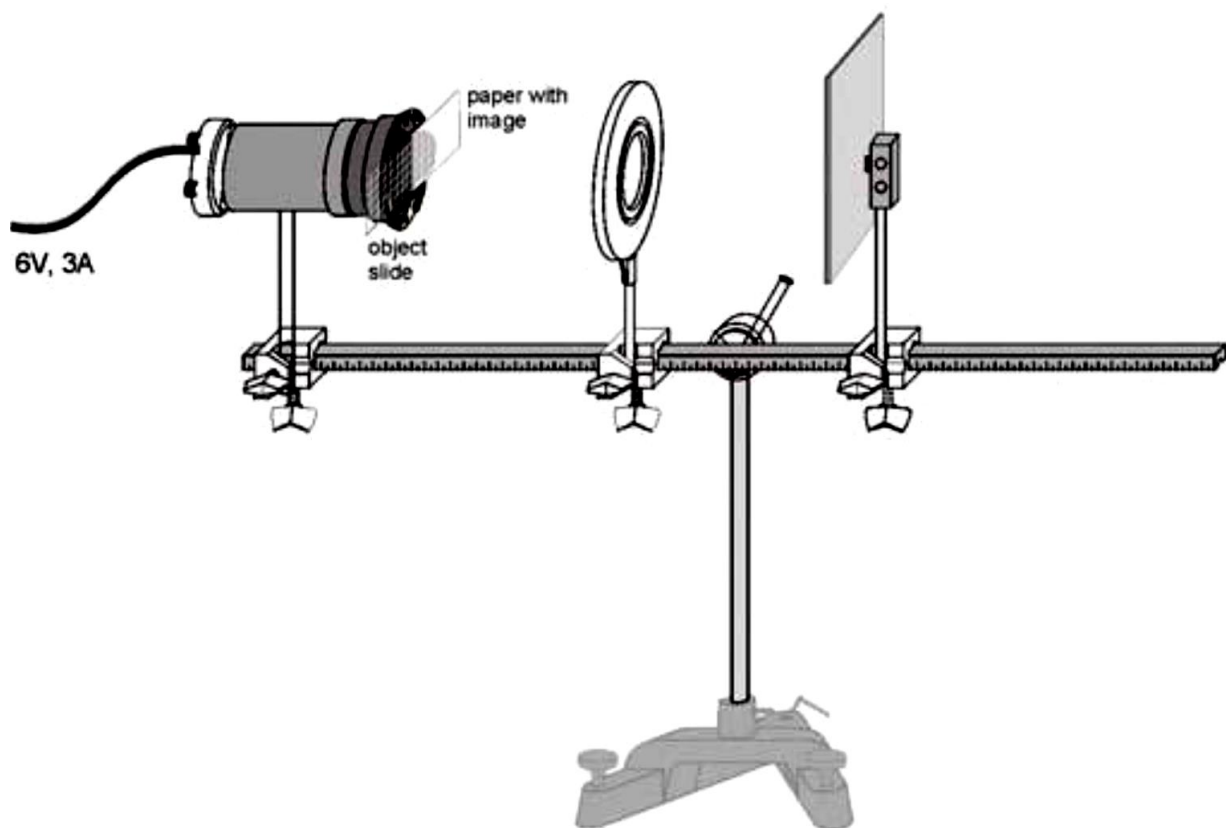

Fig. 41.3. Experimental setup for determining the focal length by the auto-collimation
Auto-collimation method is based on the reversibility of light propagation. If an object is placed at the focus of a lens, then after the lens there will be a light ray parallel to the optical axis. A plane mirror placed beyond the lens reflects this ray so that the object's image will be observed near the object (Fig. 41.3). The distance d between the lens and the image will be equal to the focal length of the lens f .
1. Install the lamp with the aspheric condenser on the optical bench as shown in Fig. 41.3.
3. Insert the glass with a drawing (object) and a sheet of white paper (screen for observing the object) into the diaphragm holder according to Fig. 41.3. Both the paper and the object should cover half of the condenser lens.